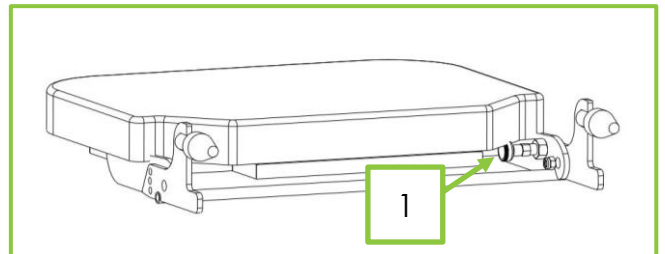

Figure 24
1. Locate the footplate angle adjustment plunger underneath the footplate (Fig 24, Item 1).